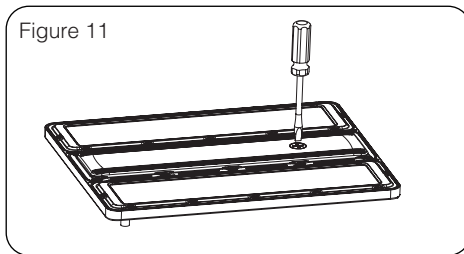

Figure 11
Step1. Remove the 1/2 plug on the front of the luminaire via a screwdriver. (Figure 11)